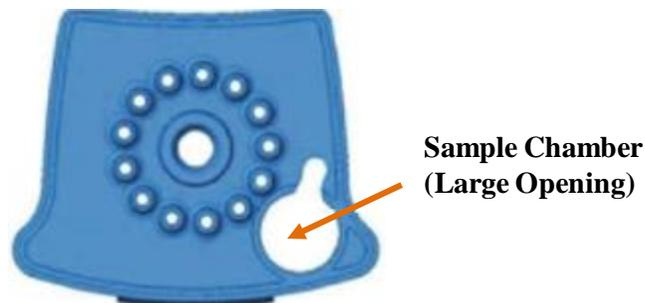

Figure 13. Xpert Omni SARS-CoV-2 Cartridge (Top View)
7. To transfer the sample to the cartridge, squeeze the top bulb of the transfer pipette **completely until the top bulb is fully flat** to empty the contents of the pipette (300 μ L) into the large opening (Sample Chamber) in the cartridge shown in Figure 13. Some liquid may remain in the overflow reservoir. Dispose of the used pipette.
4. Using a clean transfer pipette, transfer one draw of the external control sample (300 µL) into the large opening (Sample Chamber) in the cartridge shown in Figure 13.
7. Using a clean transfer pipette (supplied), transfer sample (one draw) to the large opening (Sample Chamber) on the cartridge (see Figure 13).